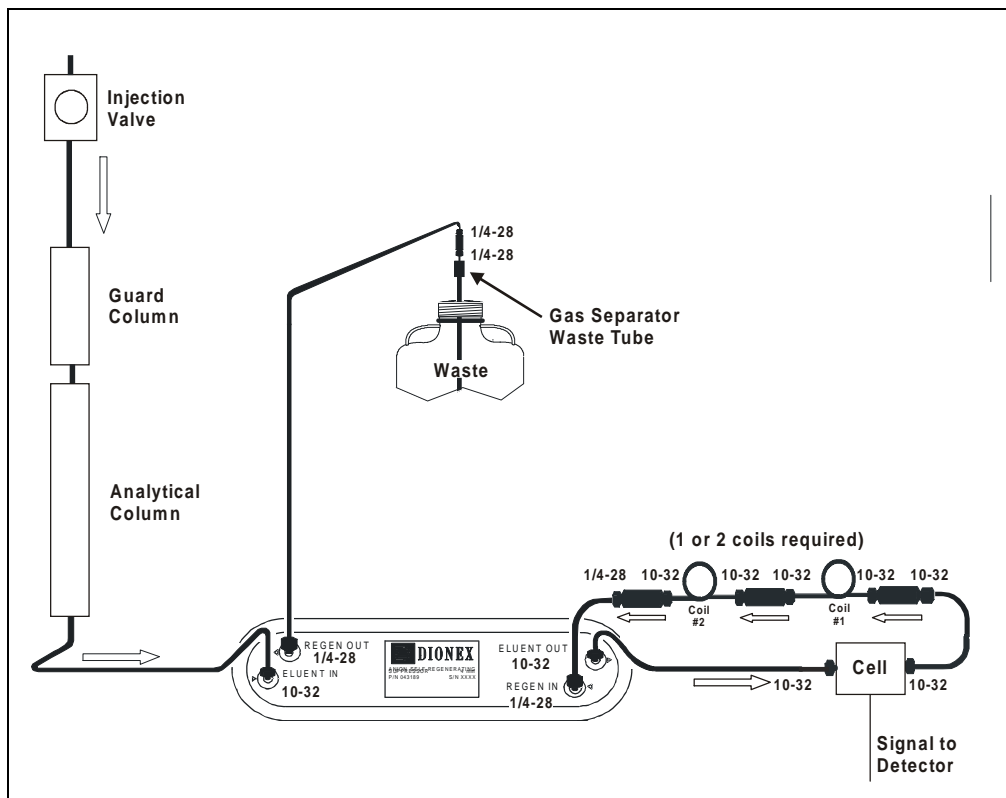
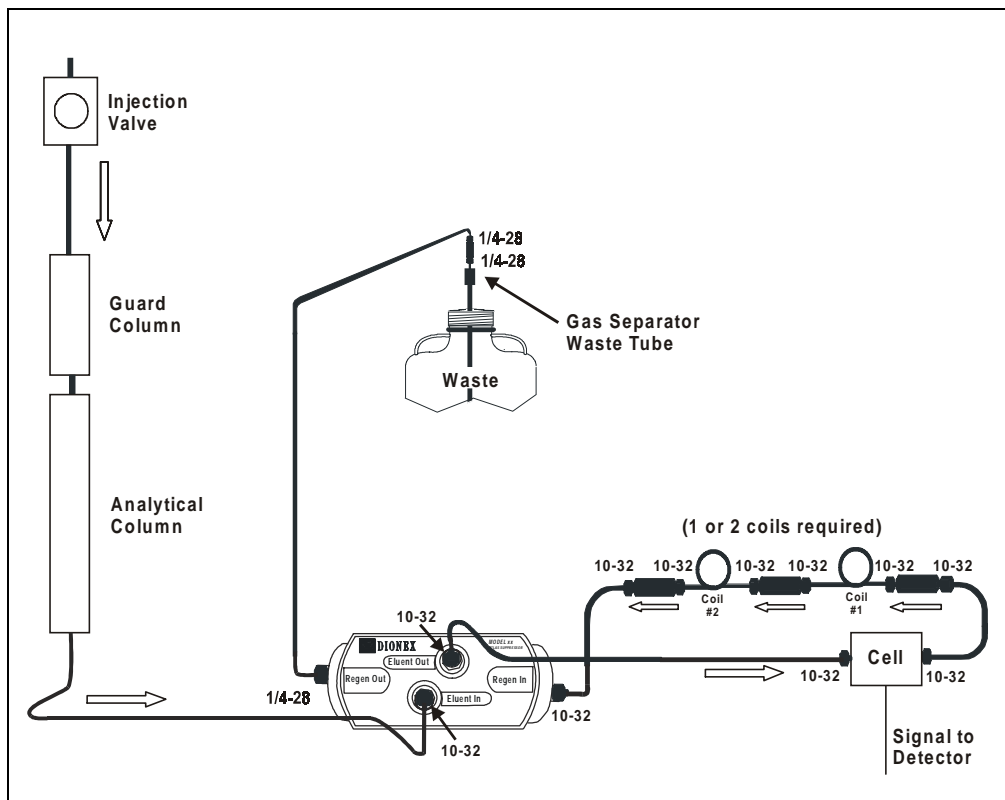

Figure B-3. AutoSuppression Recycle Mode (SRS Connections)
Figure B-4. AutoSuppression Recycle Mode (Atlas Connections)
- AutoSuppression™ Recycle mode (suppressor required), shown in Figure B-3 and Figure B-4.